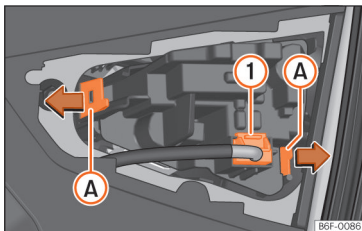

Fig. 62 Remove the bulb holder.
- Remove the bulb connector »» **Fig. 62 1**.